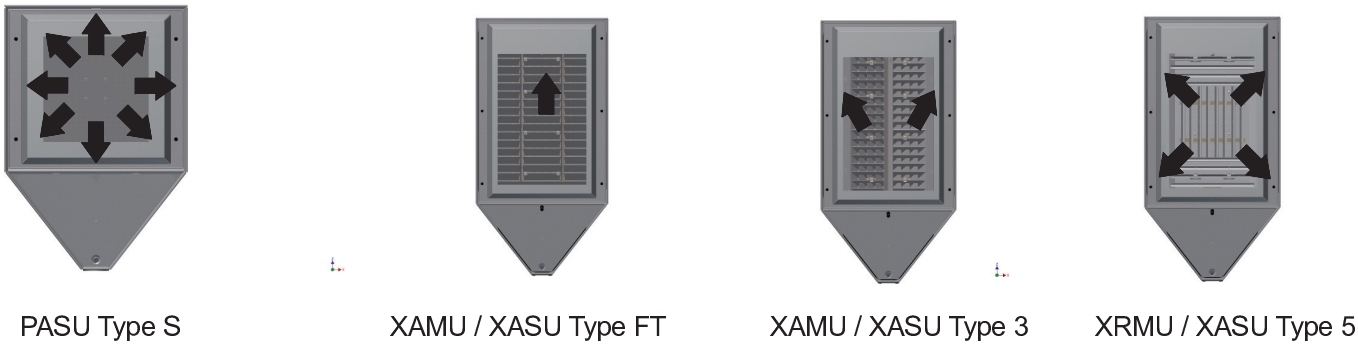

FIGURE 2
- 3. Match the reflector in the luminaire with the corresponding reflector type. See Figure 2.
**Note:** Make sure luminaire is oriented and aimed correctly based on reflector output. See Figure 2.